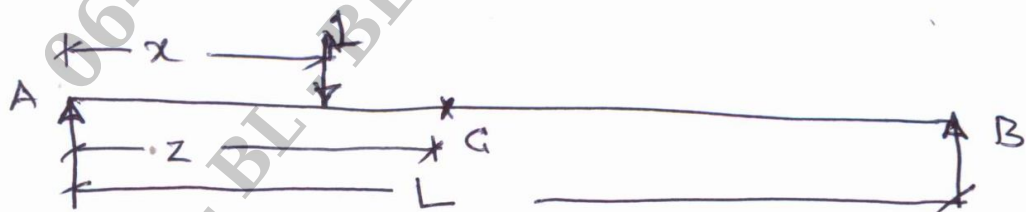

Fig.Q2(b)
b. Determine the ILD for reactions at support, shear force and bending moment at C for the diagram shown in Fig.Q2(b).